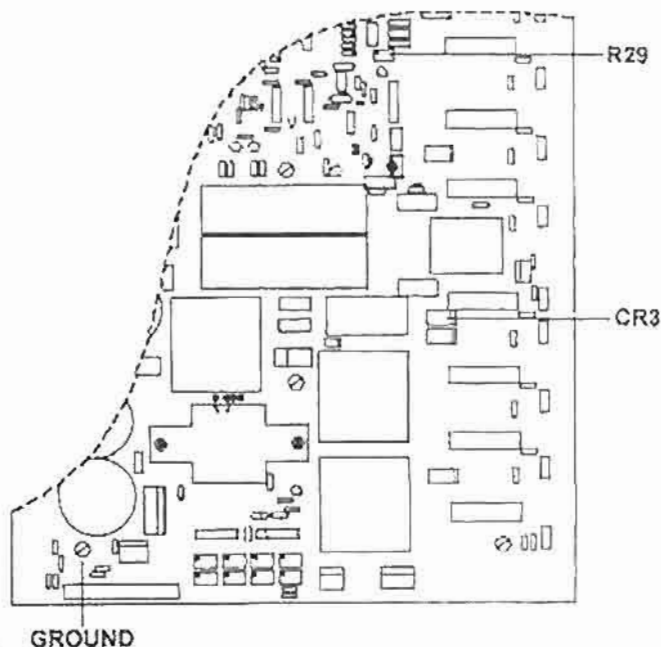

Figure 3-44. High voltage clamp adjustment.
(5) Set the "COAG POWER" to 30 watts by depressing the up ( $\Delta$ ) keyboard switch until 30 shows in the right-hand digital display.
(6) Depress the "COAG" pedal on the monopolar footswitch.
(7) Observe the wattmeter which should be  $30 \pm 5$  watts. Release the "COAG" pedal.
(8) Set the "COAG POWER" to 1 watt by depressing the down ( $\nabla$ ) keyboard switch until 1 shows in the right-hand digital display.
(9) Connect an oscilloscope with a 100X probe between the anode of diode CR3 and electrical ground on the PSRF PCB (fig 3-44).
(10) Depress the "COAG" pedal momentarily on the monopolar footswitch until you observe the peak positive voltage.
(11) Slowly increase the "COAG POWER" by depressing the up ( $\Delta$ ) keyboard switch, depress the "COAG" pedal momentarily, and repeat the steps until you observe the peak positive voltage.
(12) Adjust resistor R29 on the PSRF PCB so that the maximum peak voltage is +400 volts.